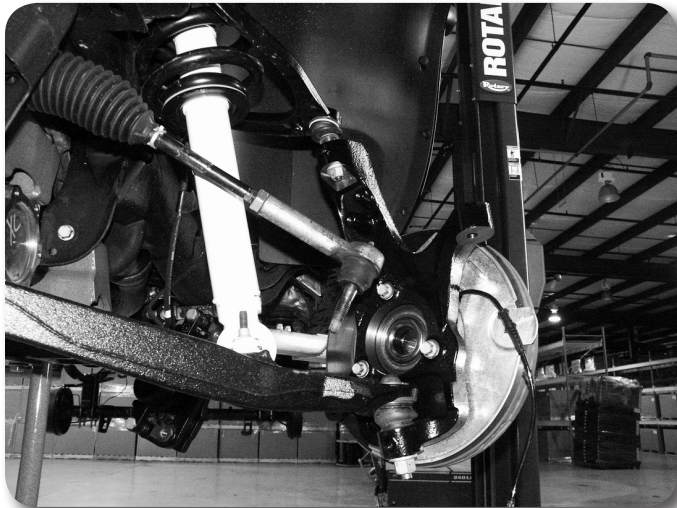

Figure 23
44. Install the assembled knuckle on the lower control arm with the original lower ball joint nut. Attach the knuckle to the upper control arm with the original upper ball joint nut. Torque the upper ball joint nut to 37 ft-lbs and the lower ball joint nut to 74 ft-lbs **Figure 23**.